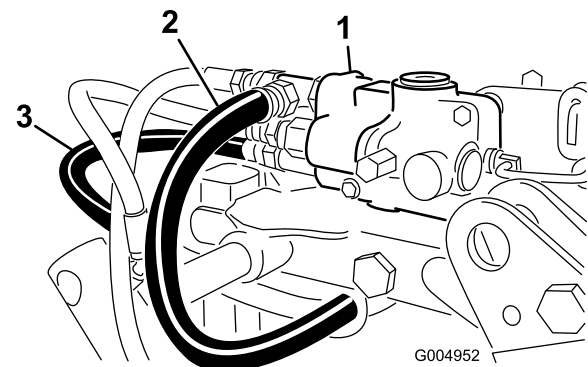

Figure 29
8. Route and connect the hydraulic pressure and tank hoses to the valve (Figure 29).